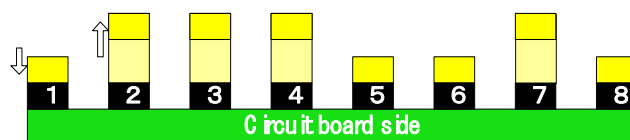

Fig. 3 Dip switch (S1) setting
Confirm that the dip switch (S1) of JAPMC-MC2110-ET3 is set as the Fig3 shows.
- Fig.3 shows the initial setting when shipment.